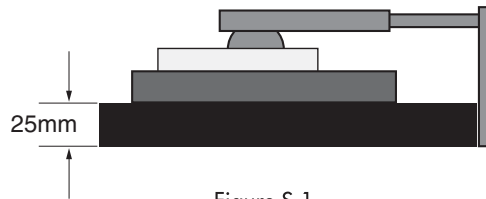

Figure S.1
3. Place monitor face down on a nonabrasive surface. (Place the screen on a 25 mm platform so that the stand is parallel with the surface.) (**Figure S.1**)